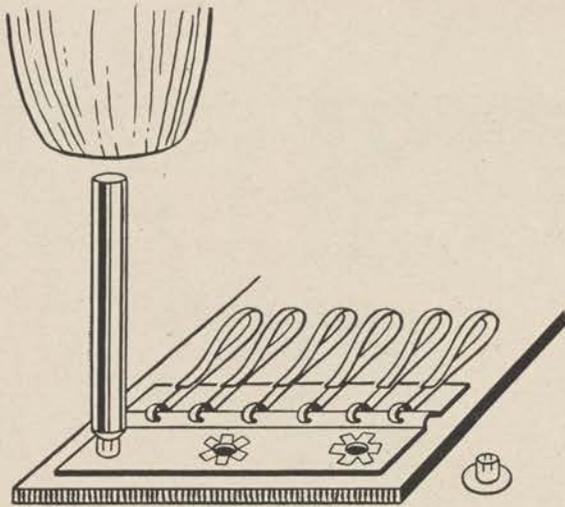

Figure 45.
a. Metal plates, such as the kind used in key containers, can be fastened to leather by means of a split eyelet which is pushed through a hole in the leather, then through a corresponding hole in the metal plate and secured by bending out the edges of the eyelet with an eyelet setter (fig. 45).